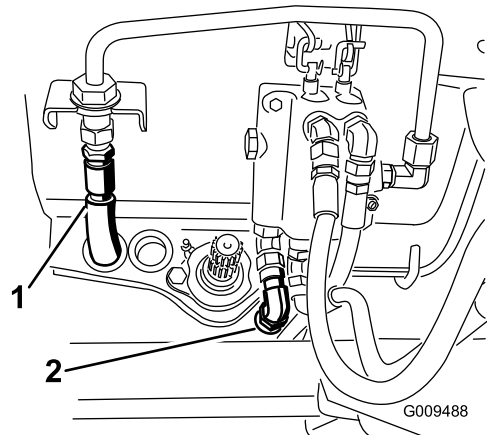

Figure 120
29. Connect the hydraulic pressure hose to the valve hard line and the tank hose to the valve (Figure 120). Retain the hose plugs for the summer change over.